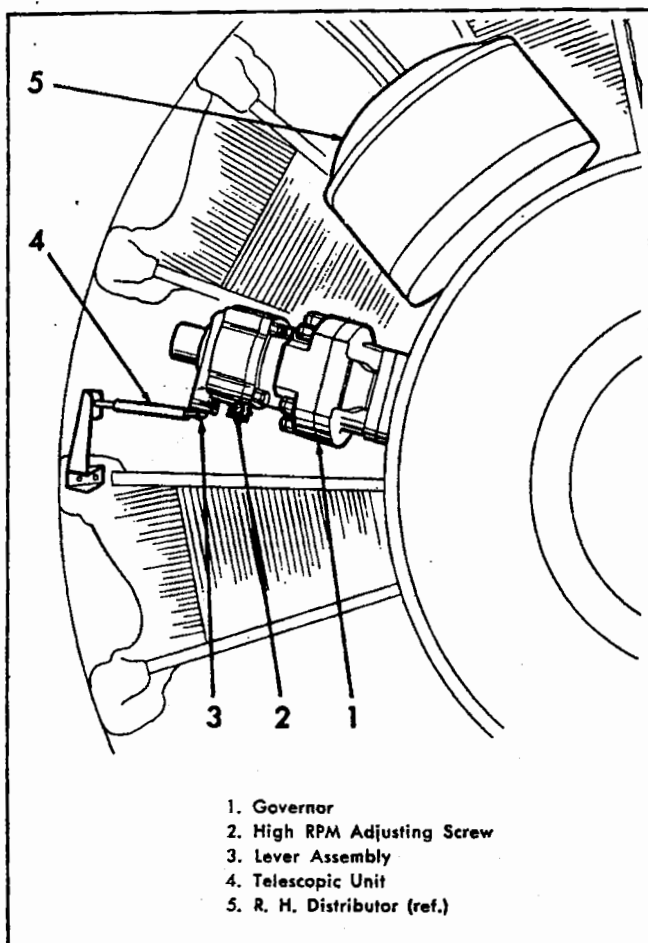

Figure 4-77. Propeller Governor.
4-634. DESCRIPTION. (See figure 4-77.) The Hamilton Standard Hydromatic, constant speed, double-acting governor, Model 4U18-S20G, is a self-contained unit which automatically brings about the adjustments in propeller blade angles which are necessary to maintain constant engine speed under varying flight conditions. Double-acting governor pump output is directed to either side of the propeller piston. Engine oil at engine supply pressure does not enter the propeller, but is supplied only to the governor. The governor, or constant speed control, is mounted on the right hand side of the engine nose section near the right hand distributor, and is engine-driven. The propeller constant speed control unit consists of the following: gear pump, which boosts the oil to the pressure required for propeller operation, a pilot valve actuated by flyweights which controls the flow of oil through the governor, and a relief valve system which regulates the operating pressures in the system.
4-637. REMOVING. (See figure 4-77.) To remove propeller governor, proceed as follows:
c. To increase the rpm (low blade angle), rotate the high rpm adjusting setscrew counterclockwise (facing the screw slot). One complete turn of the screw increases the rpm by approximately 25 rpm. (See figure 4-77.)